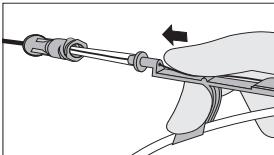

Figure 4
- Using thumb, retract guidewire tip. Place tip of Arrow Advancer – with guidewire retracted – into introducer needle (refer to Figure 4).